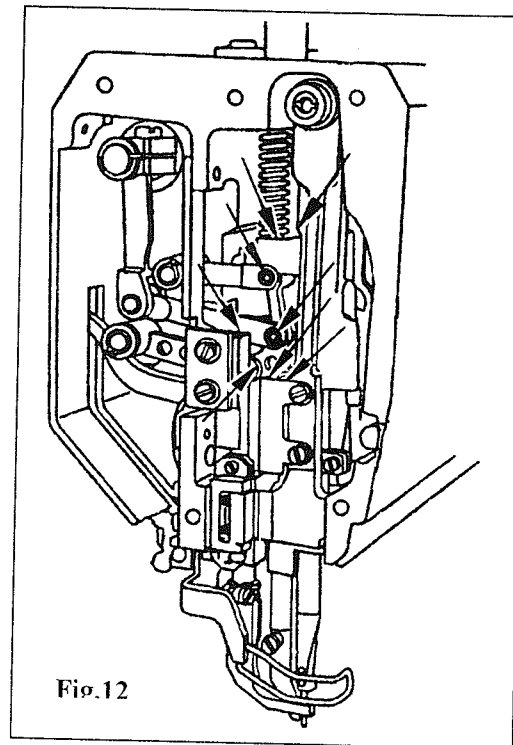

Fig.12
### 4) OILING THE HEAD (Fig.12)
① Take off the cover and oil all the bearing and sliding positions shown in fig 12 twice weekly.
② Then screw the cover back on.